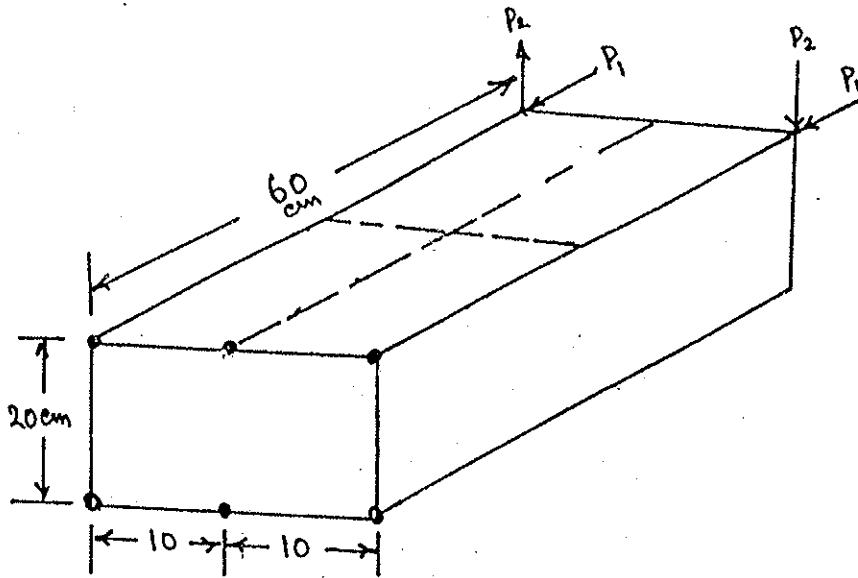

Fig. 5
- (b) Find the M.S. in buckling for the box beam shown in Fig. 5. Given : $P_1 = P_2 = 10 \text{ kN}$. Area of each stringer = 2 cm^2 and the sheet thickness is 1.5 mm through out. Assume the sheets are effective in bending and made of 2024 -T₃. Aluminium alloy. For $a/b = 2$, $K_c = 5$, $K_s = 6.5$ and for $a/b = 3$, $K_c = 4$, $K_s = 5.8$.